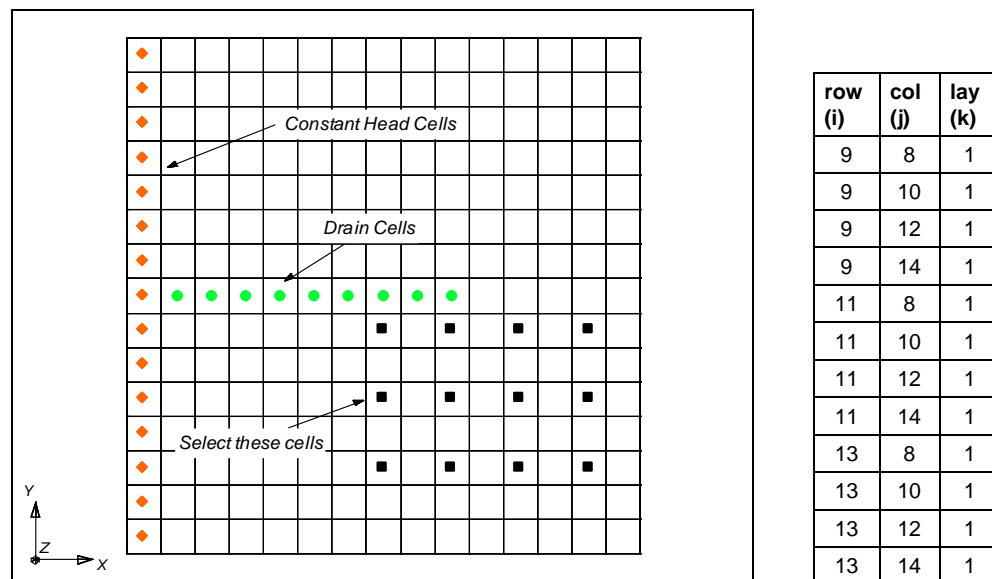

Figure 5. Cells to be selected on top layer.
1. While holding down the *Ctrl* key, select the cells shown in Figure 5.